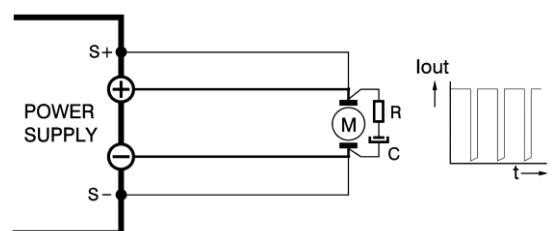

Figure 7.9: Remote sensing on a pulsating load.
- To minimize the inductance in the DC load leads, keep them close to each other. The inductance of these leads could give a problem with pulsating or dynamic loads. In this case a large electrolytic capacitor (Cd) in series with a damping resistor (Rd) both in parallel with the load will help, see Figure 7.9. Check that the capacitor Cd in combination with the load leads and resistor Rd forms a well damped circuit.
- When using remote sensing on a pulsating load (for instance a DC motor), use a capacitor in series with a resistor over the load see Figure 7.9. With this the AC component caused by the pulsing of the load is filtered out.